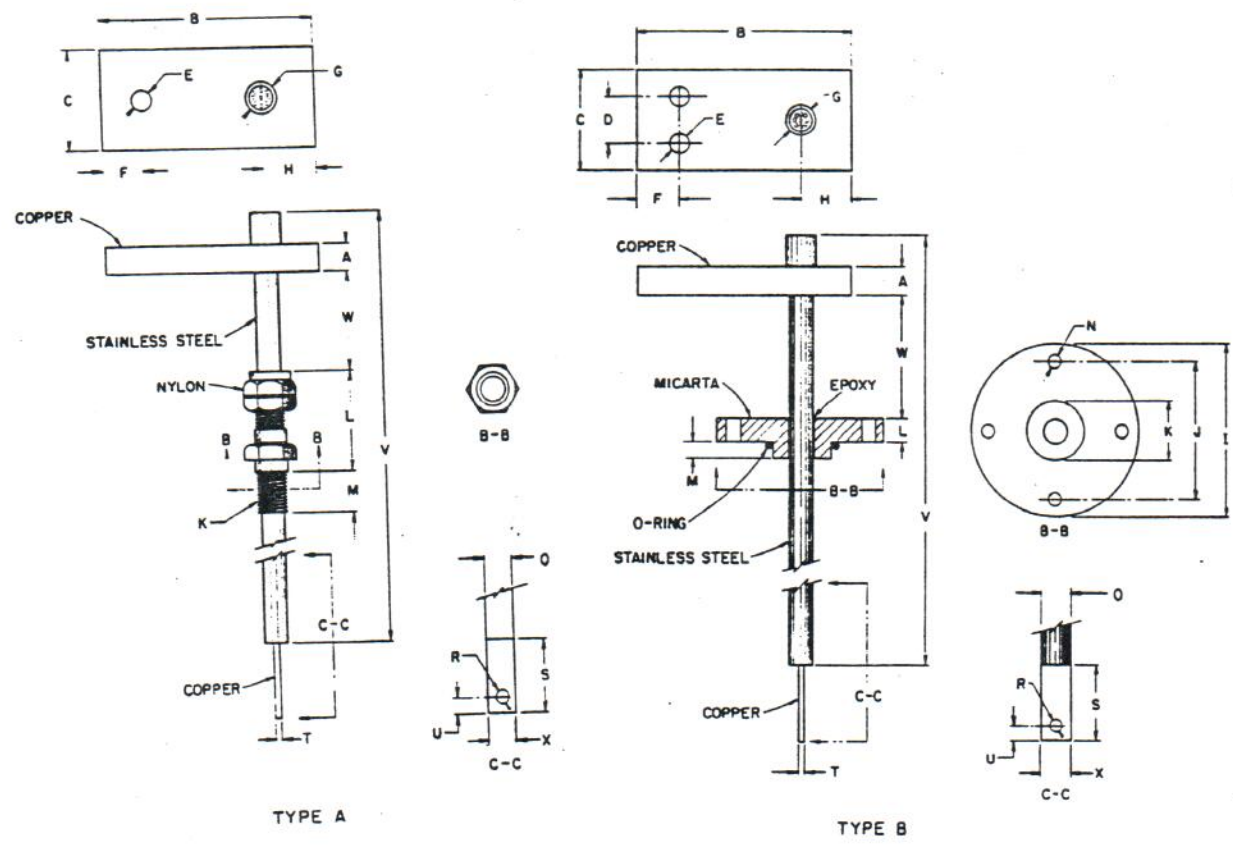

FIGURE 1
- A. Table 1 lists the specifications and shows dimensional references for AMI standard vapor cooled current leads. Dimensional references in Table 1 are shown on Figure 1. Custom designed or special order current leads may have dimensions and specifications that vary from those listed. However, the remainder of the information in these Installation, Operation and Maintenance Instructions is applicable.